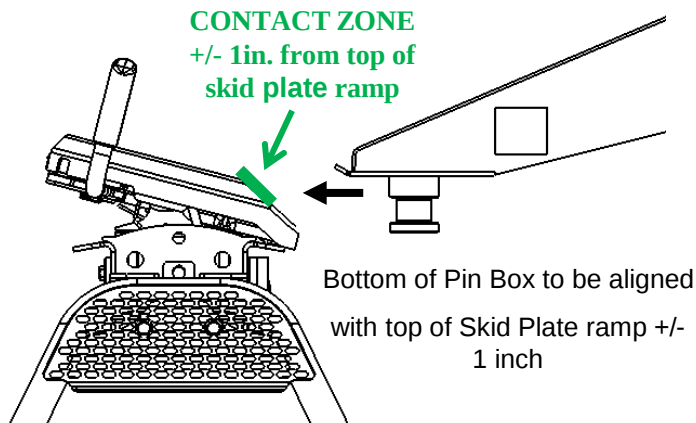

FIG. 13
- D. Pin box is at correct height for hitching (fig. 13 & 14).